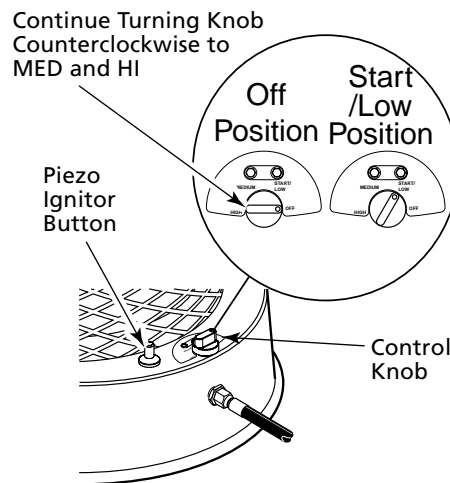

Figure 6 - Control Knob and Piezo Ignitor Button Locations for Propane Model 3VH18A
- Slightly depress and turn control knob counterclockwise to the low position (See Figure 6 or 7).
- When burner remains lit, set heater at the desired heat level by slightly depressing the control knob and turning counterclockwise to the Medium or High settings (See Figure 6 or 7).